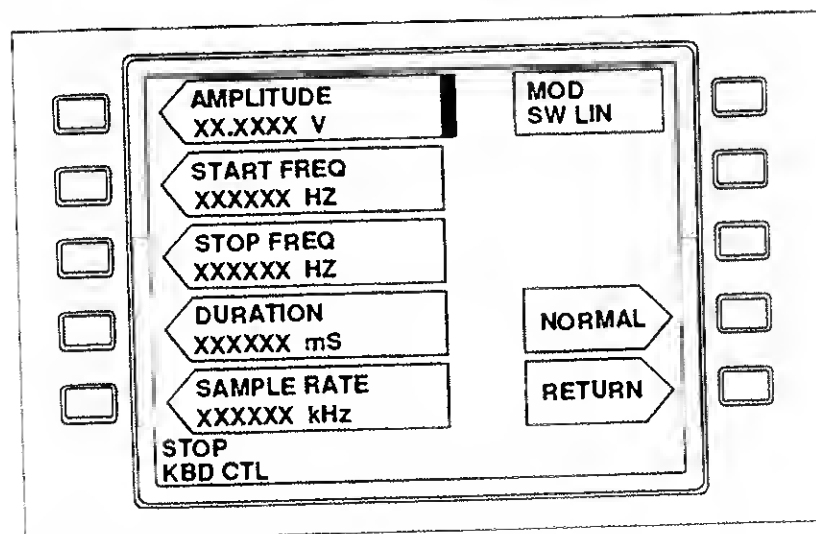

Figure 3-16. LONG Submenu Parameters
- (2) Press the LONG Softkey. The LONG submenu shown in Figure 3-16 should appear on the screen. Notice that the OFFSET parameter changes to SAMPLE RATE and the LONG Softkey changes to NORMAL. Set up the parameters as follows: